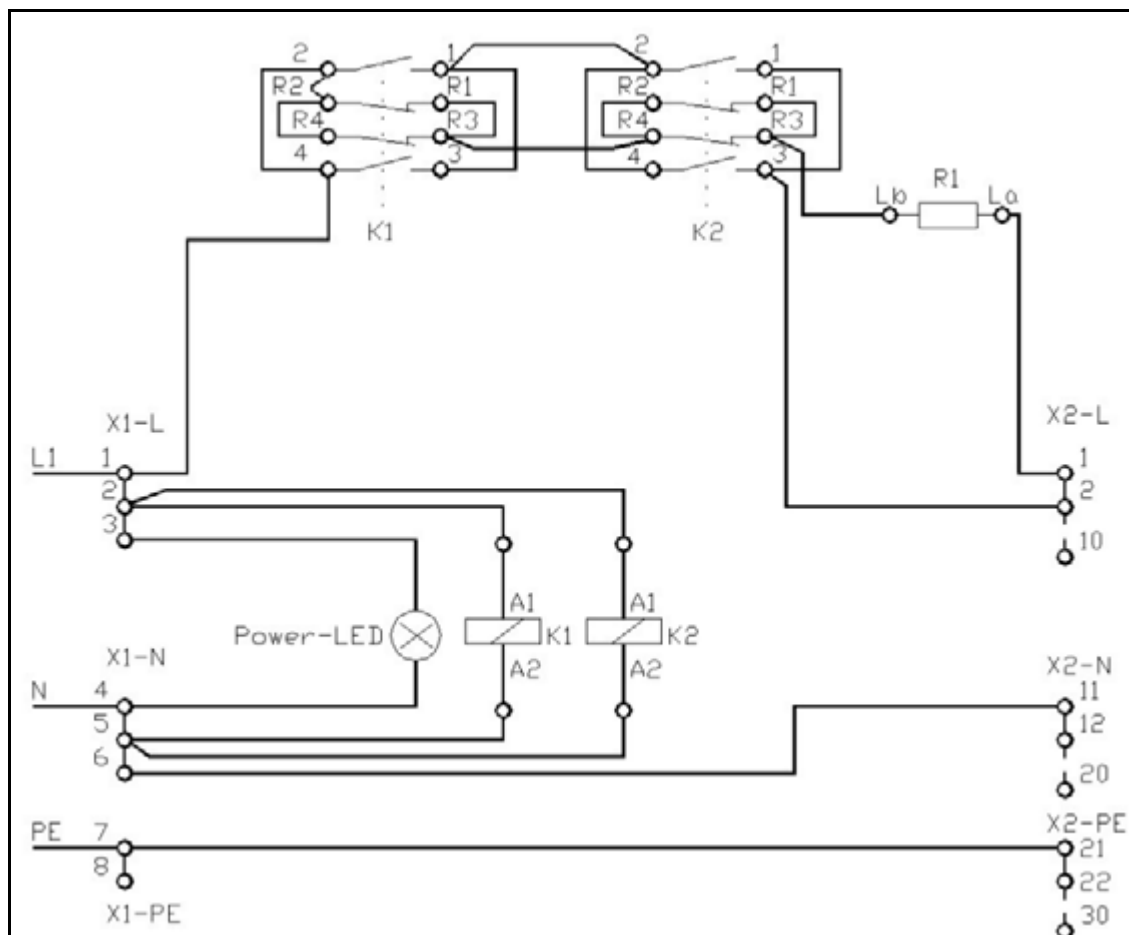

Fig. 6: Current limiter
- Check current limiter according to the “Functional Description” and the drawing of the electrical connections in (Fig. 6 / p. 33).